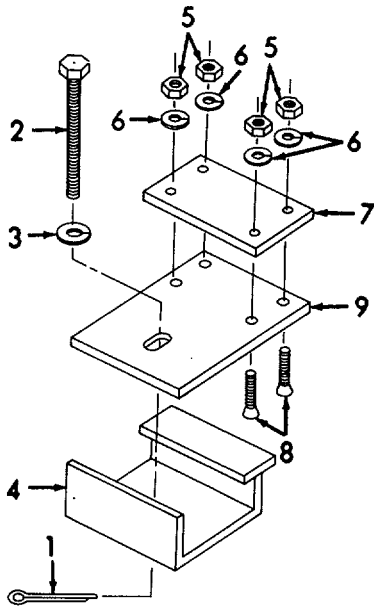

Figure 6-14. Holddown Clamp Assembly, Removal.
- (1) Inspect for loose or missing hardware.
- (2) Inspect for rust/corrosion and damage.
b. Removal (Refer to Figure 6-14).